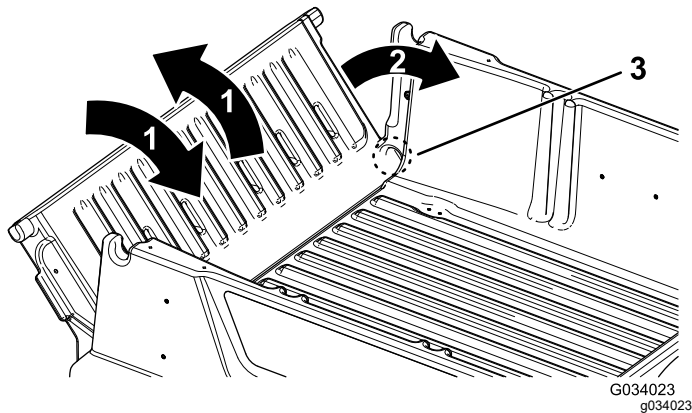

Figure 24
2. Rotate the tailgate to approximately the 45° position (Figure 24).
3. Use a short, shaking motion to rotate the tailgate back and forth several times (Figure 24).